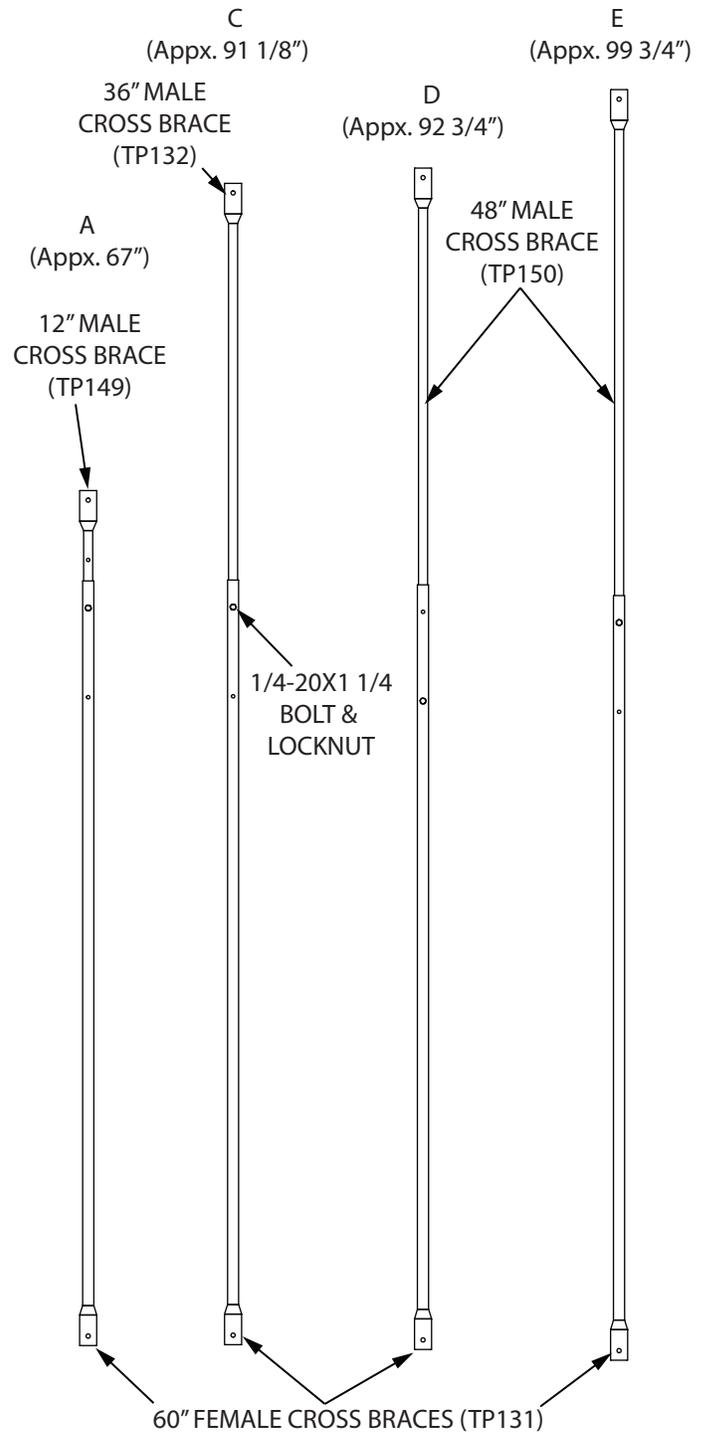

FIGURE 11
a. Locate the (2) 12" male cross braces (TP149) and (2) 60" female cross braces (TP131). Insert the male cross braces into the female cross braces. Use (2) provided 1/4-20 x 1-1/4" bolts and locknuts to secure these cross braces in the hole location to achieve length A. **SEE FIGURE 11**
b. Locate the (2) 36" male cross braces (TP132) and (2) 60" female cross braces (TP131). Insert the male cross braces into the female cross braces. Use (2) provided 1/4-20 x 1-1/4" bolts and locknuts to secure these cross braces in the hole location to achieve length C. **SEE FIGURE 11**
c. Locate the (4) 48" male cross braces (TP150) and (4) 60" female cross braces (TP131). Insert the male cross braces into the female cross braces. Use (4) provided 1/4-20 x 1-1/4" bolts and locknuts to secure these cross braces in the hole location to achieve lengths D & E (two each). **SEE FIGURE 11**
a. The two cross braces that run diagonally from the top ladder section to the top/middle leg joint are the shortest. Using pole length A (approximately 67"), attach to the support brace tabs on top ladder section with (2) provided 5/16-18 x 3/4" bolts and locknuts. Attach other end of cross brace assemblies to the support brace tabs of top/middle leg joints. Finger tighten with (2) provided 5/16-18 x 1-1/4" bolts and locknuts to temporarily hold these cross braces in place. **SEE FIGURE 11, 12, and 13**
b. The two cross brace poles that run diagonally from the top/middle leg joint to the middle/bottom ladder joint are longest. Using pole length E (approximately 99-3/4") attach to the lower support brace tabs of leg joints using (2) provided 5/16-18 x 3/4" bolts and locknuts. Attach opposite end of pole length E to middle support brace tabs of ladder joints using (2) previously finger tightened 5/16-18 x 1-1/4" bolts and locknuts. **SEE FIGURE 11 and 12**
c. The two cross brace poles that run from the top/middle ladder joint to the middle/bottom leg joint are pole length D (approximately 92-3/4"). Using pole length D attach to the support brace tabs of leg joints and ladder joints using (4) provided 5/16-18 x 3/4" bolts and (4) locknuts. **SEE FIGURE 11 and 12**
d. The two cross braces that run diagonally between both rear legs are both the same length. Using pole length C (approximately 91-1/8"), attach to the support brace tabs on leg joints using (4) provided 5/16-18 x 3/4" bolts and locknuts. **SEE FIGURE 11 and 13**